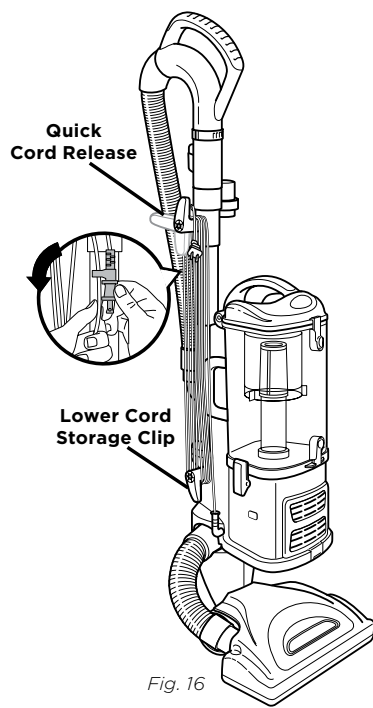

Fig. 16
- 2 Rotate the upper quick cord release to its upright position and coil the power cord loosely around the two clips. Clip the plug onto the cord to secure. (Fig. 16)